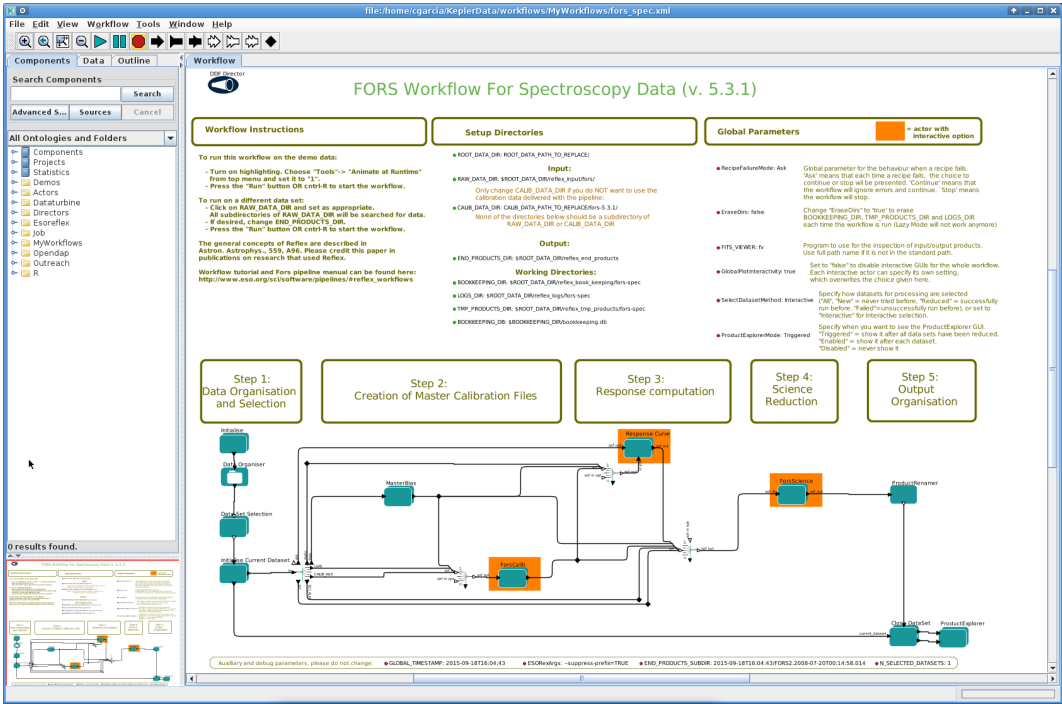

Figure 4.2: FORS2 workflow general layout.
2. Now open the FORS2 workflow by clicking on File -> Open File, selecting first `fors-5.3.10` and then the file `fors_spec.xml` in the file browser. You will be presented with the workflow canvas shown in Figure 4.2. Note that the workflow will appear as a canvas in a new window.